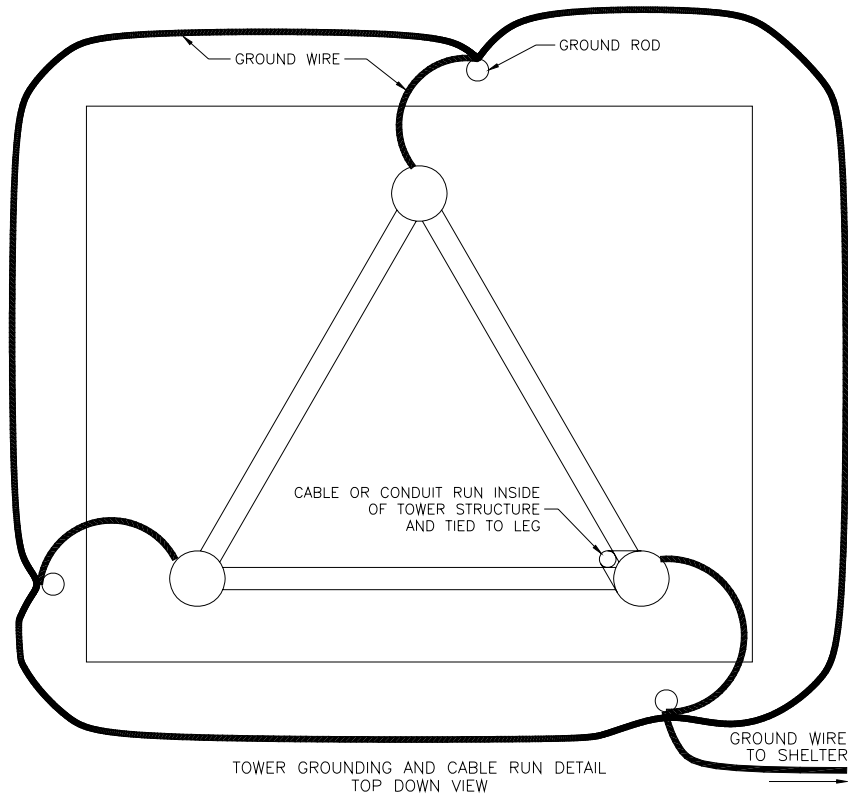

Figure 1
- A copper clad ground rod of at least 10' in length driven into the ground. For a tower with multiple legs, one ground rod per leg is required with a ground wire loop connecting each of the rods. See figure 1.
- Run the Cat-5 cable inside the tower structure, tying the cable to the leg of the tower every 4 feet. See figure 1. For better protection, install metallic conduit on the tower and run the Cat-5 cable inside the conduit.